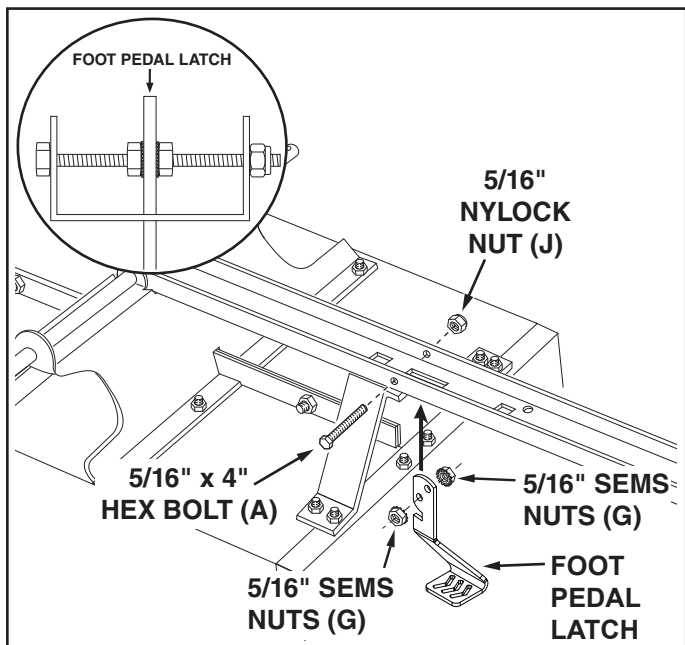

FIGURE 8
16. Place the foot pedal latch through the slot in the tongue. Insert the 5/16" x 4" hex bolt (A) through one side of the tongue. Assemble a (SEMS) hex nut (G), the lever and another (SEMS) hex nut (G) onto the hex bolt. Insert the hex bolt through the opposite side of the tongue and assemble a 5/16" nylock nut (J) onto the end of the hex bolt. Tighten so that the hex bolt can still rotate freely. Tighten the two (SEMS) hex nuts (G) against each side of the foot pedal latch so that it is centered in the slot. See figure 8.